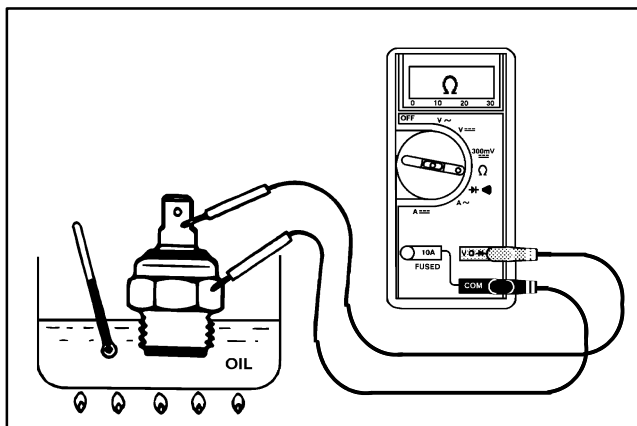

Figure 65
3. Put the end of the switch in a container of oil with a thermometer and slowly heat the oil (Fig. 65).